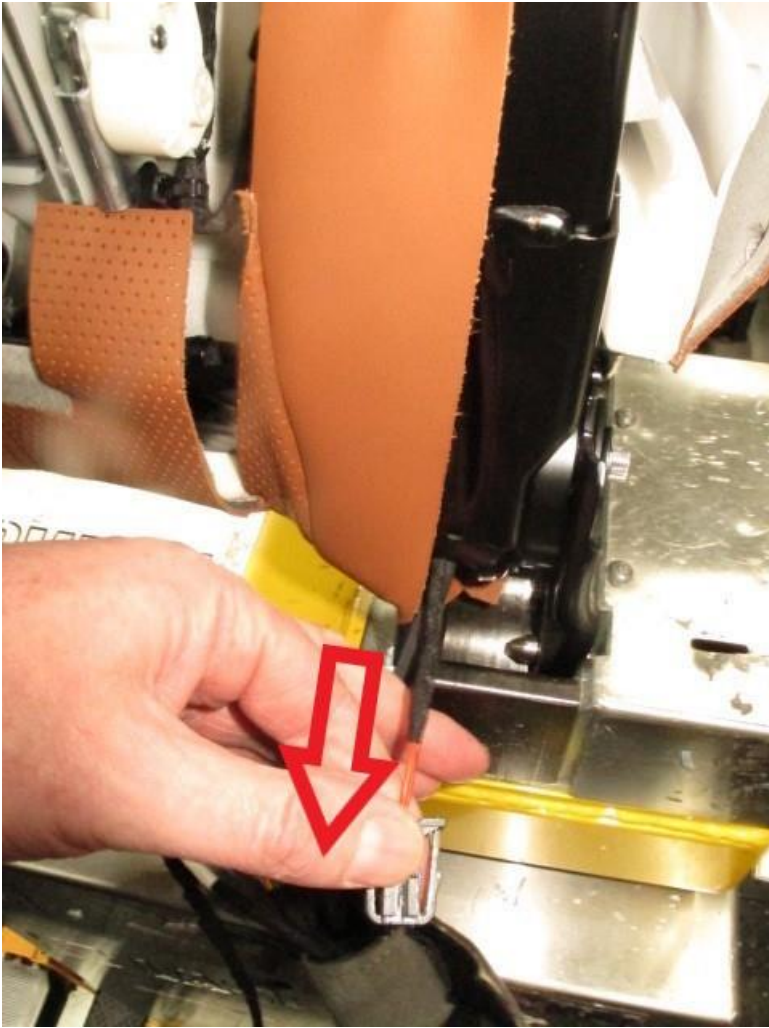

Figure 9
8) Once routed correctly, the connection should be as shown in Figure 9